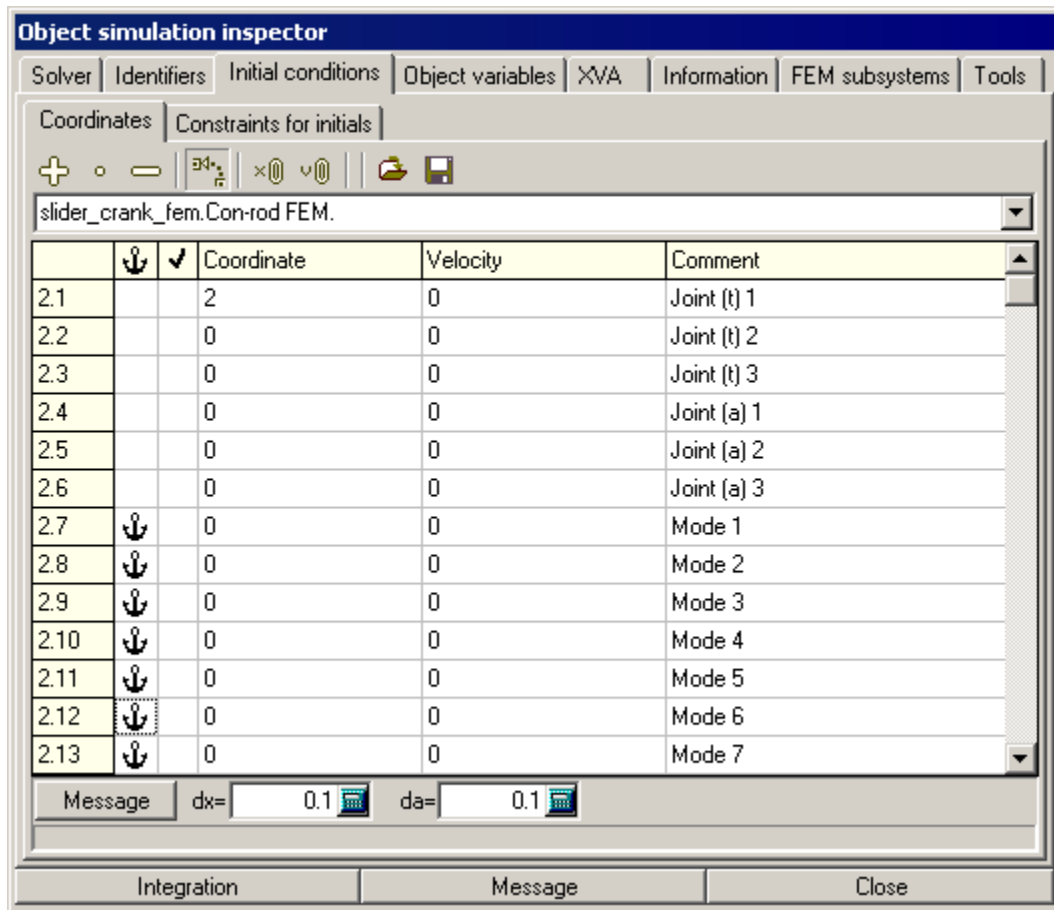

Figure 1.23.
4. In the **Object simulation inspector** select the **Initial conditions tab**. Select the **Con-rod** subsystem in the drop down list, Figure 1.23. An anchor sign means that the correspondent degree of freedom is frozen. In this example it means that the elastic degrees of freedom will not be changed during calculation of initial position.
**Note.** If the **Initial condition** tab differs to the Figure 1.23 set the anchors manually.